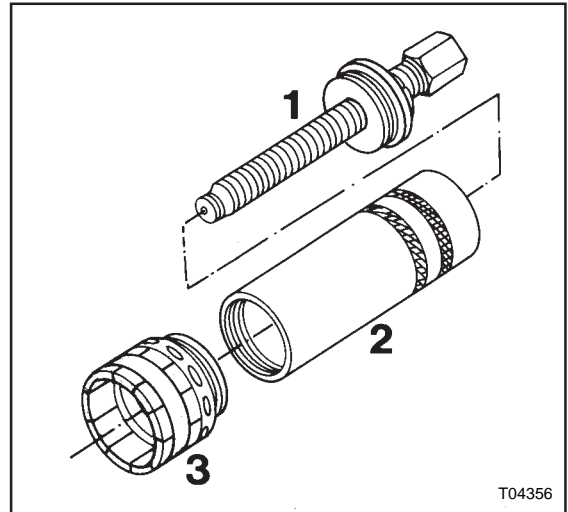

Figure 4: Tool set to remove cone and roller assembly of inner bearing
- a. Slide outer ring of pinch bush (3, Figure 4) forwards to release inner ring. If inner ring remains stuck...
- d. Screw threaded bush (2, Figure 4) onto pinch bush (3, Figure 4).
- e. Screw spindle/cover assembly (1, Figure 4) into threaded bush.